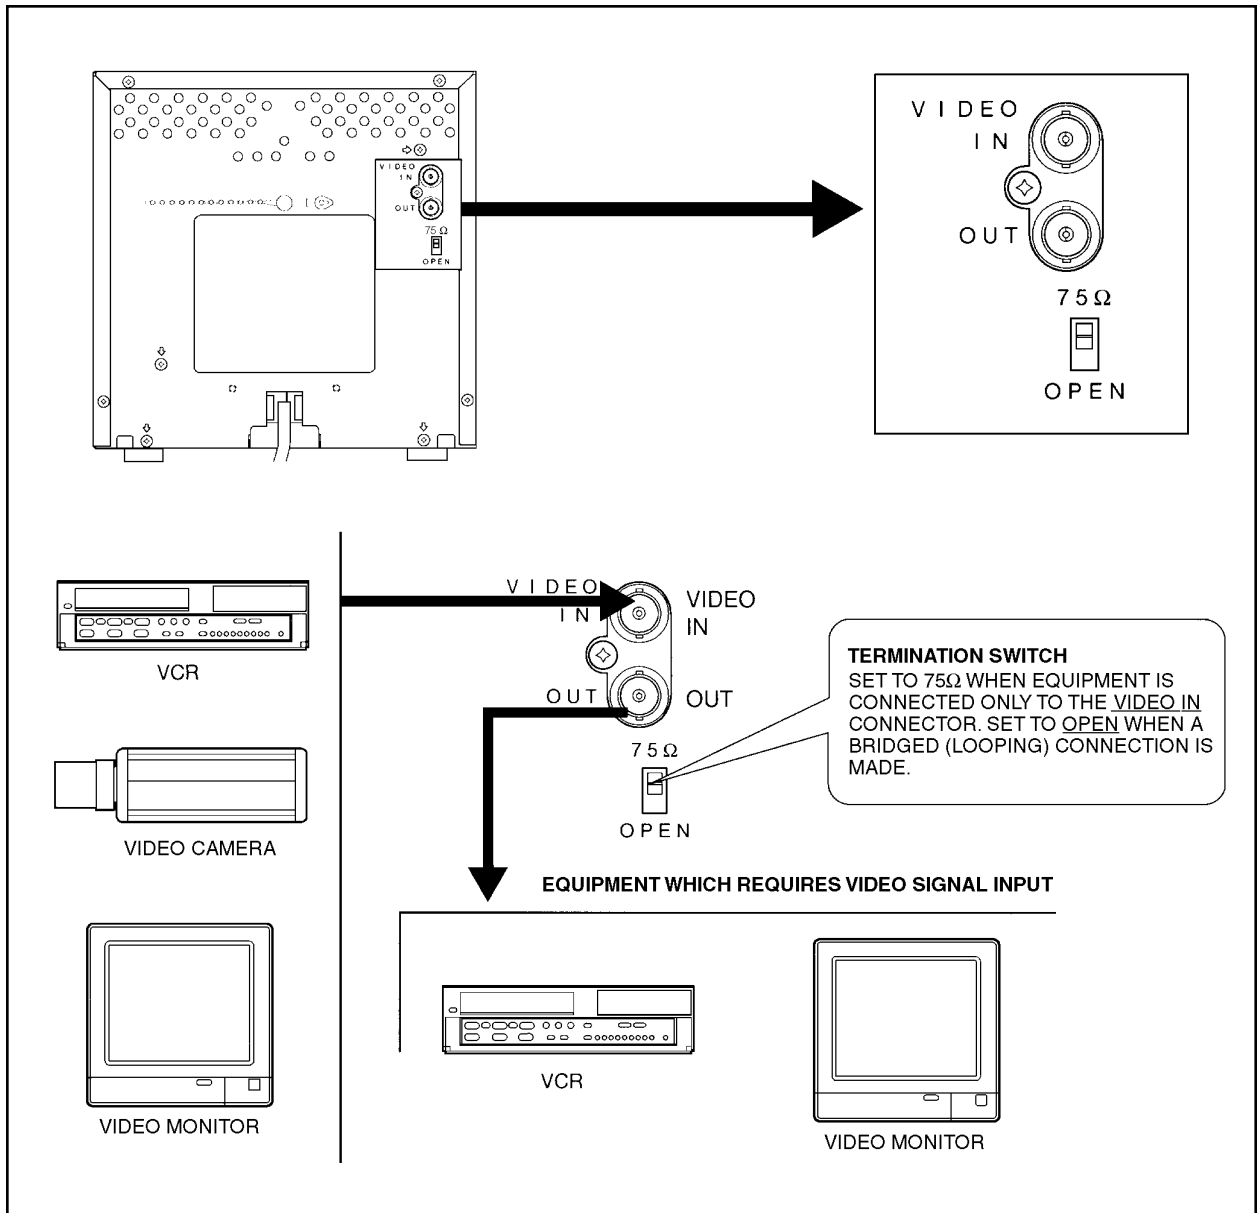

Figure 1. Monitor Connections
1. Connect a video cable from the video source to the BNC connector labeled VIDEO IN on the rear panel of the monitor (refer to Figure 1). Refer to Table A for the type of video coaxial cable to use.
2. When the video signal is looped through the monitor, connect a video cable from the BNC connector labeled VIDEO OUT to the equipment which requires a video signal input (refer to Figure 1).
3. Set the termination switch on the monitor to the 75-ohm or OPEN position (refer to Figure 1).